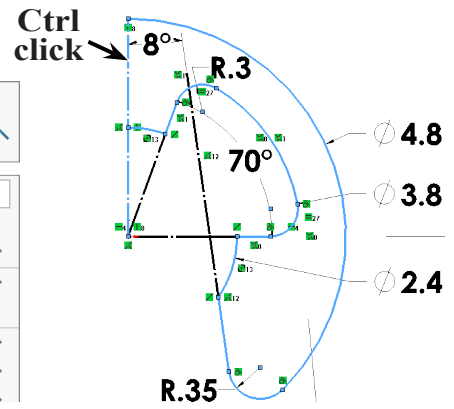

Fig. 17
Step 2. **Ctrl-click** vertical centerlines to add to selection, **Fig. 17**.